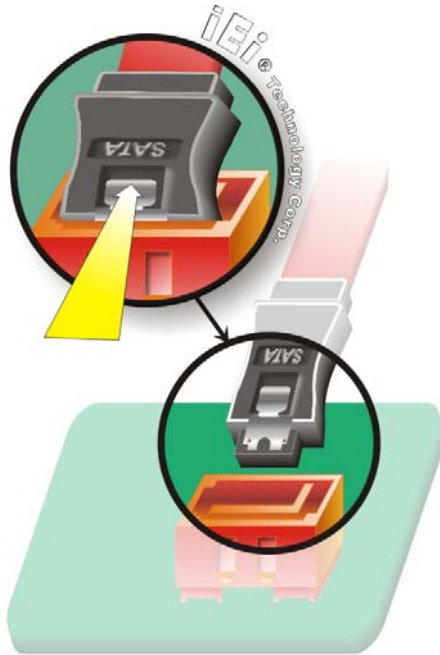

Figure 4-10: SATA Drive Cable Connection
- Step 2:** **Insert the cable connector.** Press the clip on the connector at the end of the SATA cable and insert the cable connector into the on-board SATA drive connector. See **Figure 4-10**.